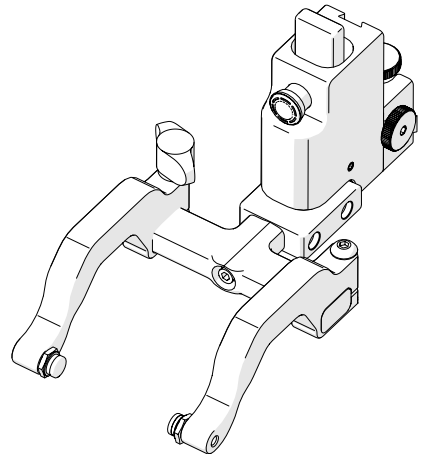

Fig. 124 - 90° probe holder positioning
2. Orient the yoke to the front of the probe holder and screw the yoke into the threaded hole provided (Fig. 124).